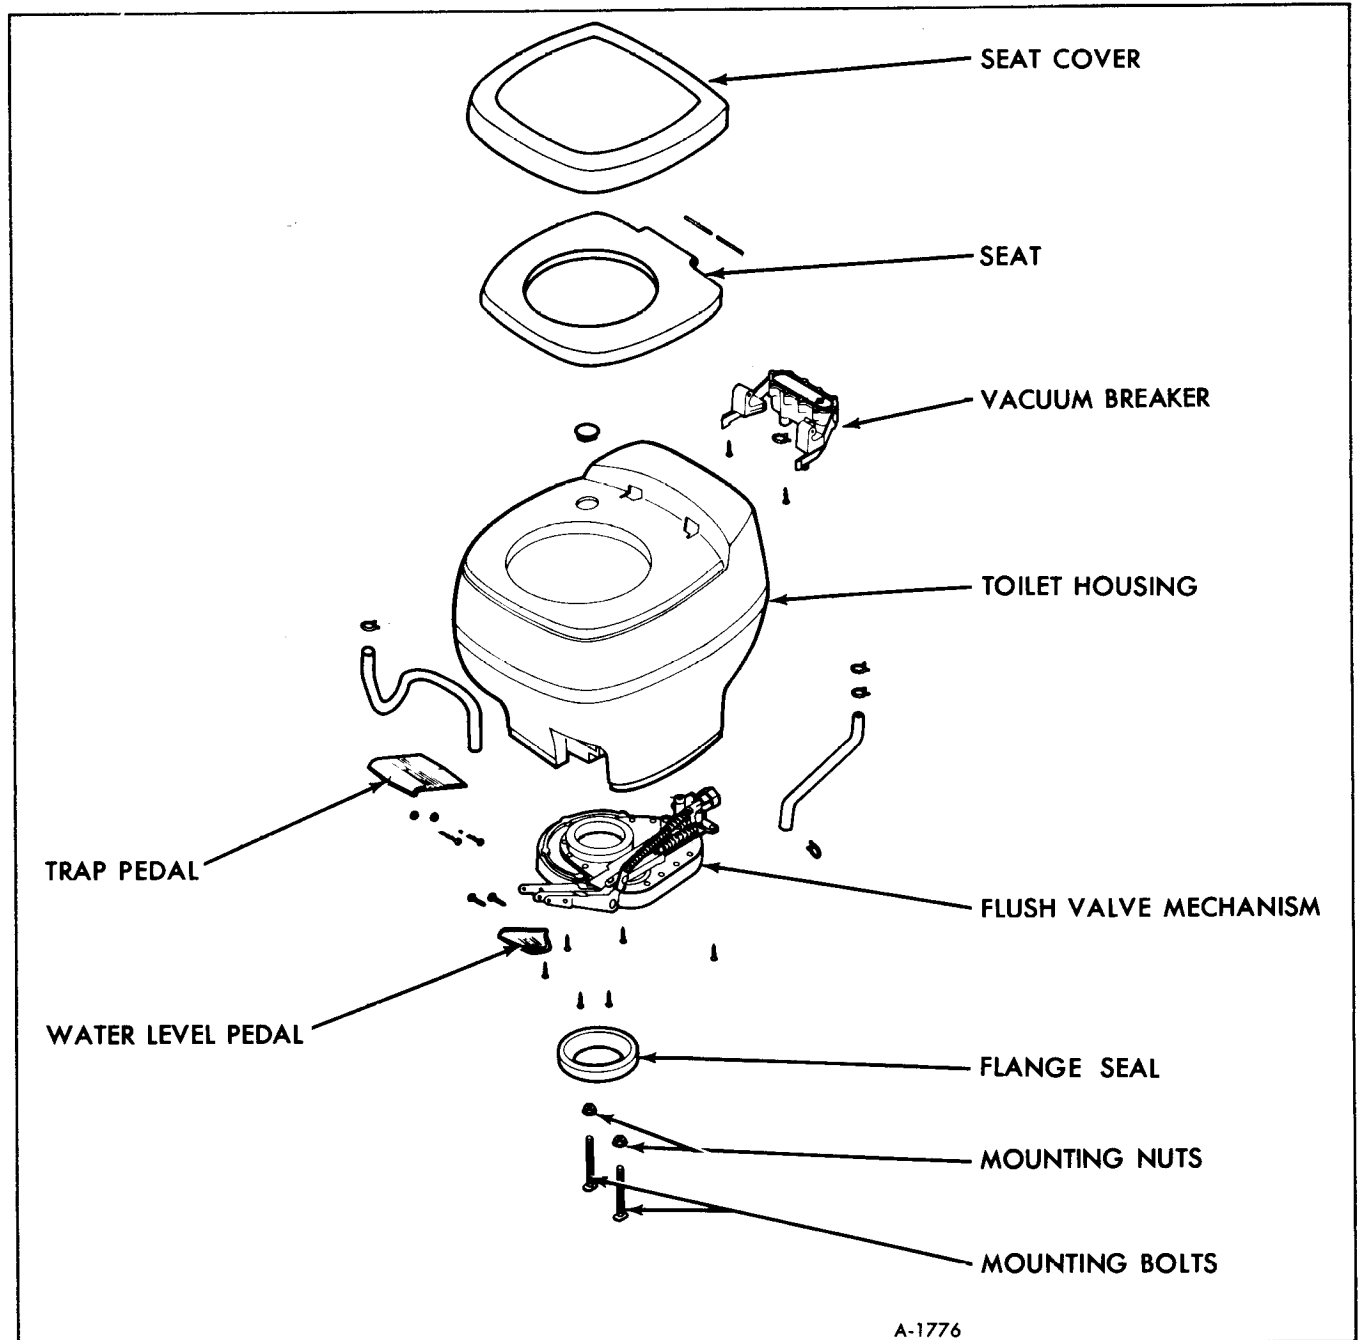

Figure 1-Standard Toilet Components
The standard toilet (figure 1) is a fresh water, permanently installed sanitation system. It uses a pressure flushing system. This scours the bowl with
The toilet disassembles into four main subassemblies (See figure 1).
1. Removal of the seat and cover assembly (figure 1):
2. Removal of the vacuum breaker (figure 1):
3. Removal of the mechanism assembly (figure 1):